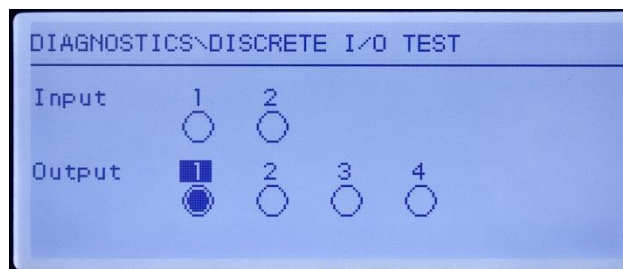

Figure 5-6: Discrete I/O Test Screen, Output 1 Active
3. Focus for control of a specific output is indicated by reverse video of the number above the output. When an output is in focus, pressing the UP navigation key turns the output ON. A smaller, solid circle is shown to indicate that output is ON. This is shown in Figure 5-6.